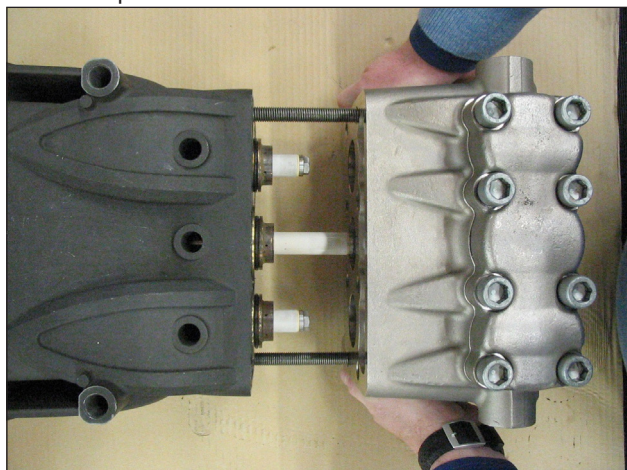

Fig. 33
- B) Lubricate ②③⑤ components with OCILIS silicone grease code 12001600. This operation is also deemed necessary to facilitate adjustment of the lip seal on the piston.
2. Using two screws – service pins (code 27508200), fasten the casing as indicated in Fig. 33. Position the complete head, making sure that it is centred only on the central piston.